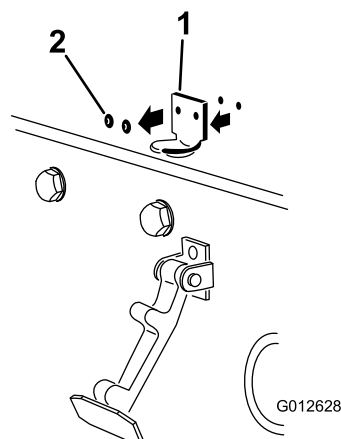

Figure 3
2. Remove the 2 rivets securing the hood-latch bracket to the hood (Figure 3).